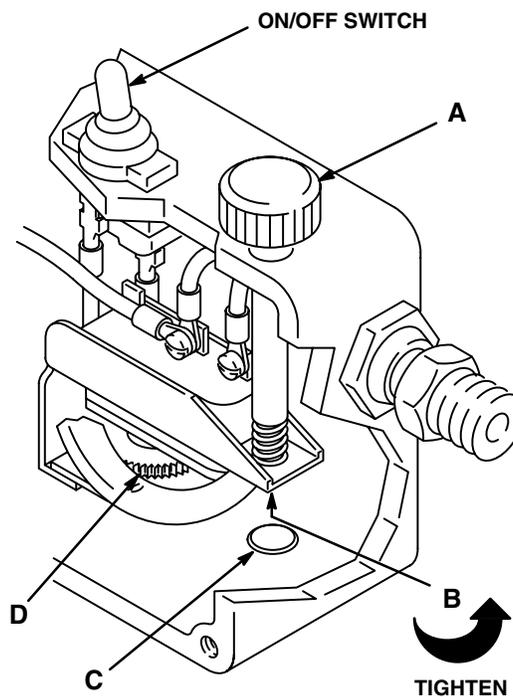

Fig 25–1
**NOTE:** See Fig 25–1 for the following procedure.
4. Open the needle valve slightly. Turn the pressure control knob (A) to the minimum setting.